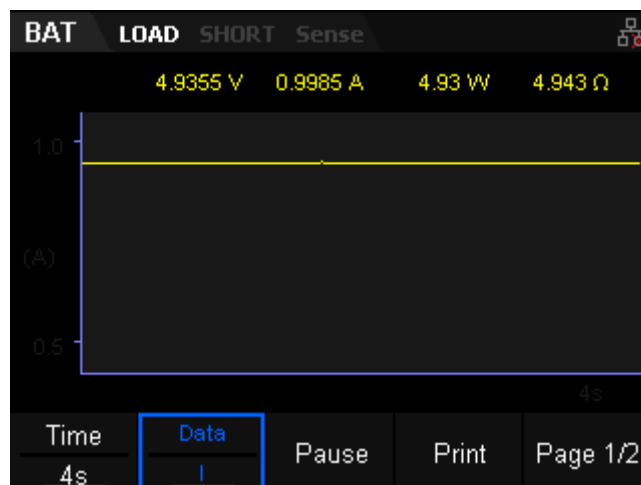

Figure 2-40 Waveform display interface of BAT
Press the **Display** key to enter the waveform display interface, as shown in figure 2-40. By observing the CC waveform with the Data parameter set to current (I), you can see the load discharge with a constant current. Press the **Display** key again to exit the waveform display interface and return to the main interface of OPPT test mode.